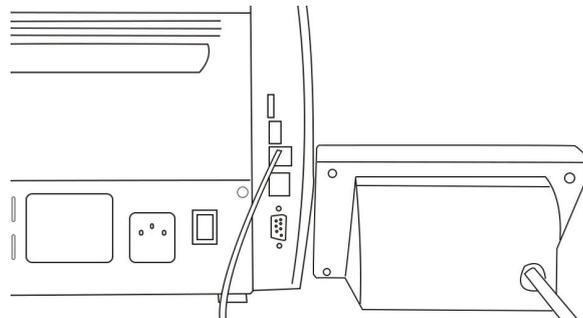

Figure 84
1) Please insert the RJ12 connector of the external display into the RJ12 interface on the back of the machine, as shown in Figure 84.